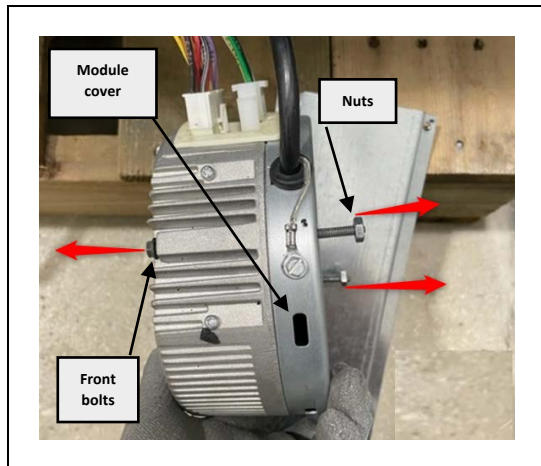

Fig.5 Removing Motor Module cover
**Step 5.** Remove module cover to access the control module by removing the front bolts held on by the remaining 9mm nuts (qty 2) on the back of the module. See Fig. 5.